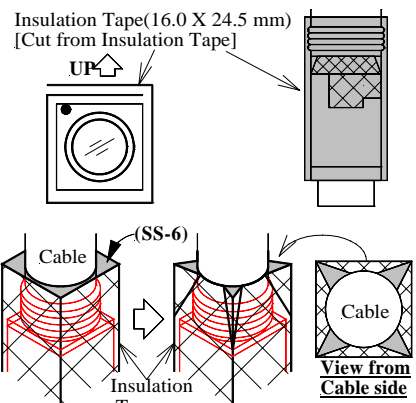

Fig.7-2-2
- d) Tape a piece of Insulation Tape(RM8200 : cutting size=13.0mm x 18.0mm) around on Shield Pipe of Objective Lens Unit about 1 & 1/4 turns starting from Right side as shown in Fig.7-2-2.
- e) Fill cavities between the excess insulation tape of cable side and thread covering cement with SS-6, and fold the excess portion of the tape around the cable as shown in Fig.7-2-2.